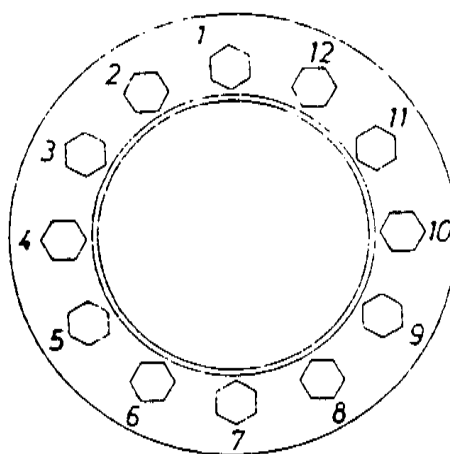

FIGURE 20
10. Tighten all locking screws on the shrink disc gradually and all the way around (not in diametrically opposed sequence). (See Figure 20.)